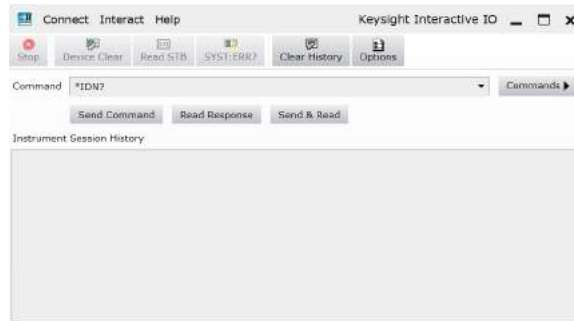

Figure 2-13 Keysight Interactive IO
- 4 The remote interface instrument identification information will appear on the **Instrument Session History** as shown in Figure 2-13.